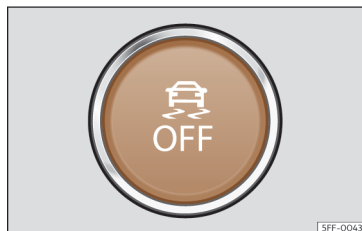

Fig. 191 In the lower part of the centre console: button to switch the ESC off/on
- In "Sport" mode, the ESC can be switched off and on by briefly pressing the  button on the centre console»» **Fig. 191**.
- The ESC can be turned off by pressing and holding the  button on the centre console >>> **Fig. 191**, and it can be turned on again by briefly pressing the same button.